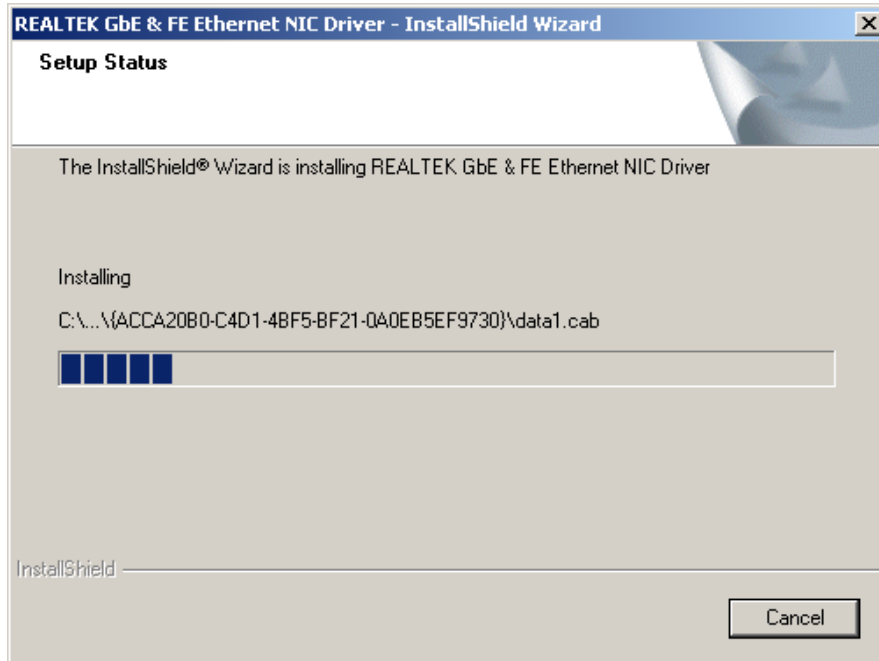

Figure 6-10: Realtek LAN Driver Setup Status
Step 4: Click **INSTALL** and the **Setup Status** screen appears as the driver is installed (**Figure 6-10**).